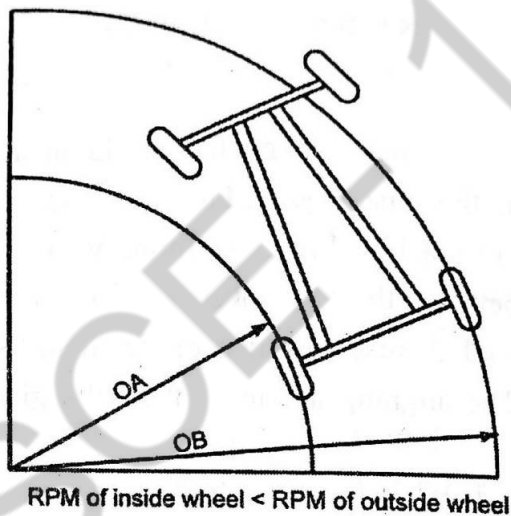

Figure 3.48
The path of the inside wheel (A) and the path of the outside wheel (B) of a vehicle when it turns along a curve are illustrated in figure 3.48 for comparison. The outside wheel (B) draws an arc with the radius of distance OB and the inside wheel (A) draws an arc with radius of distance OA. Therefore, the distance travelled by the outside wheel is longer than the inside wheel.